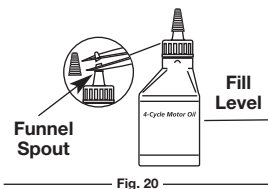

Fig. 20
Your unit is supplied with one 2.2 fl.oz. (60 ml) bottle of SAE 30 SJ oil (Fig. 20).
1. Unscrew the top of the bottle of oil and remove the paper seal covering the opening. Replace the top. Next, cut the tip off the funnel spout (Fig. 20).